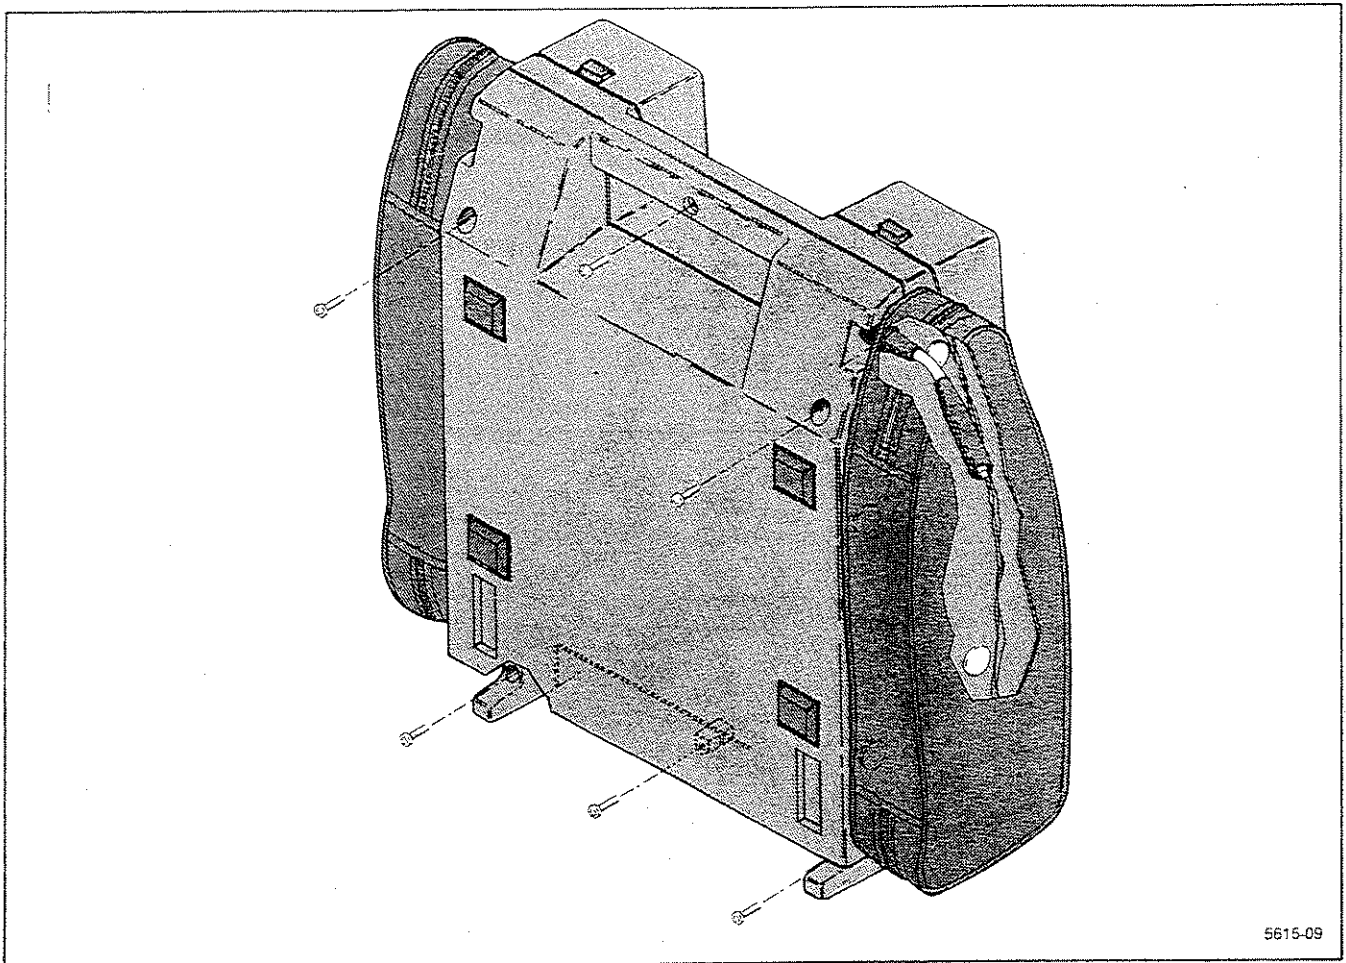

Figure 6-3. Top cabinet half removal.
To remove the Side Pouches and Top Cabinet Half (including the Front Panel Lid), proceed as follows (refer to Figure 6-3):
2. Place the A6902B on its feet as shown in Figure 6-3 and remove six Torx® screws as shown.